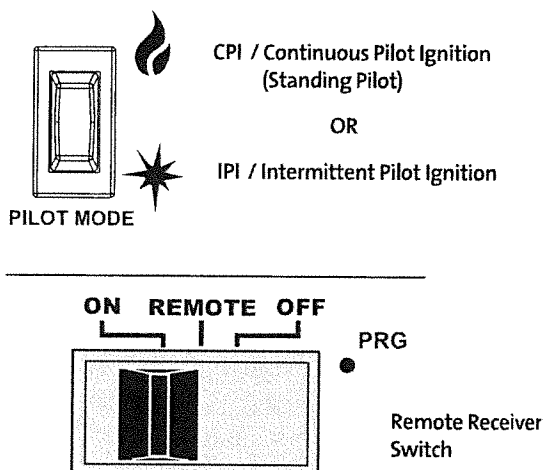

Figure 51. Initial system settings.
2. Slide the **Remote Receiver switch** to the **ON position**. The ignitor will generate spark in either IPI or CPI pilot modes. See fig. 51.